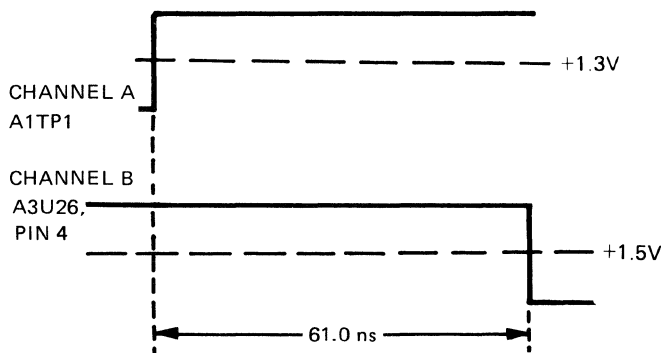

Figure 5-9. Add Adjust Waveform
- l. Connect oscilloscope channel B to A3TP3 (or A3U26, pin 4; use pin 7 for ground). See figure 5-9.